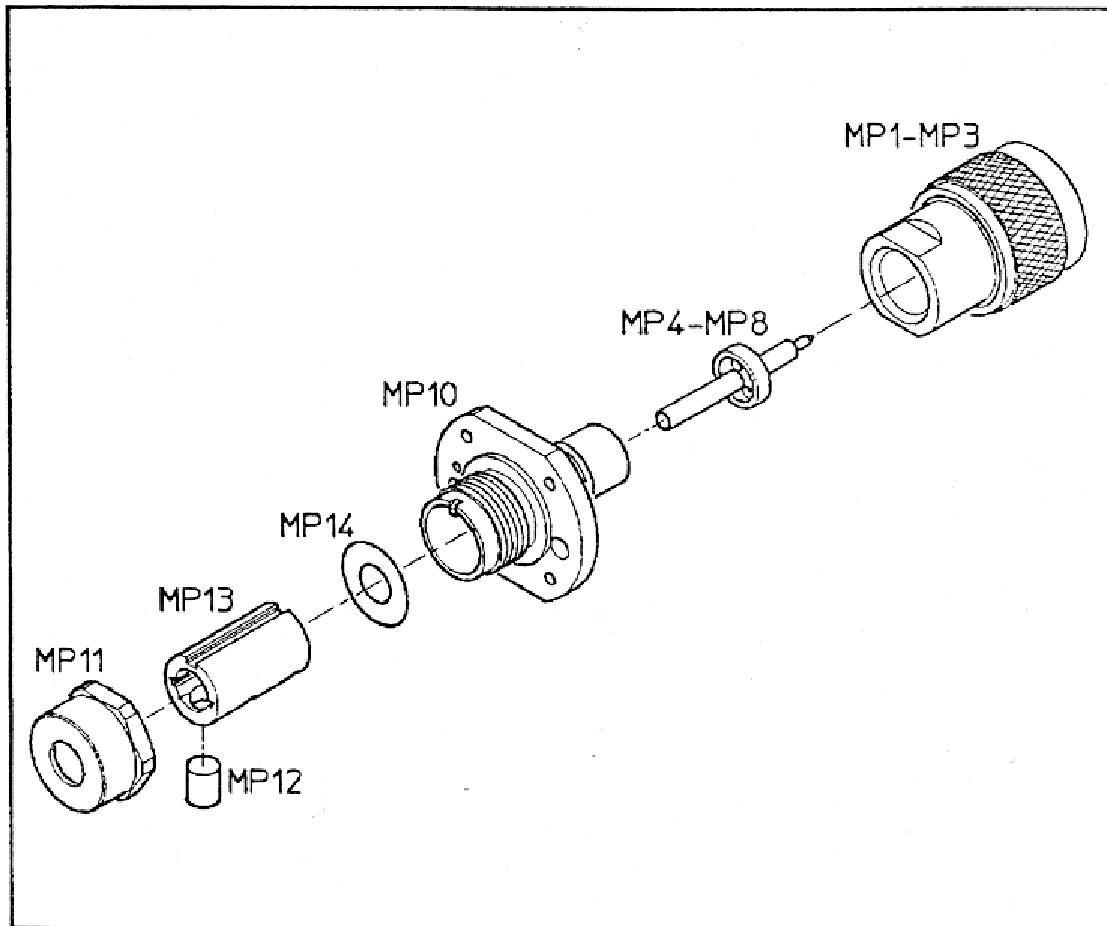

Figure 8. A1 Bulkhead Illustrated Parts Breakdown
7. Screw the bulkhead into the center pin assembly as shown in figure 8. Tighten in place to 50 ± 5 in-lbs (565 N-cm)
3. Position the Power Sensor as shown in figure 8 (top). The small hole 5 should be on the left side of the RF input connector. Remove the allen cap screws 1, 2, 10, and 13. Loosen 11 and 12. Remove the upper chassis from the Power Sensor.